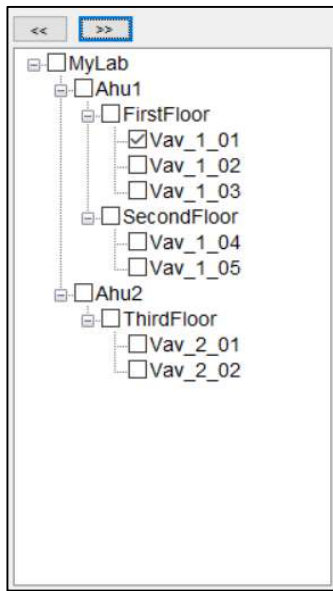

Figure 9
- The navigation tree (figure 9) is synchronized between the **Project Setup** window and the **VAV Entry** window.